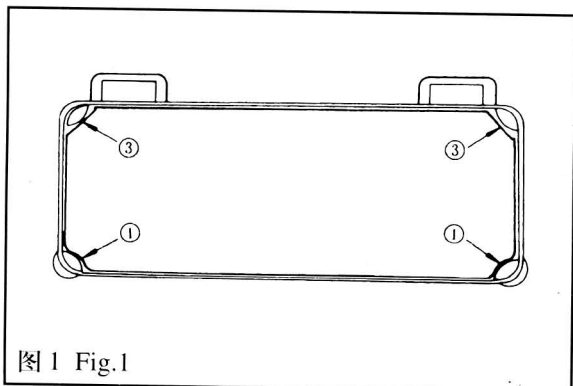
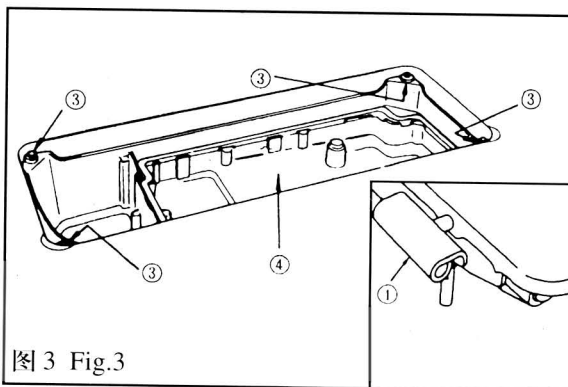
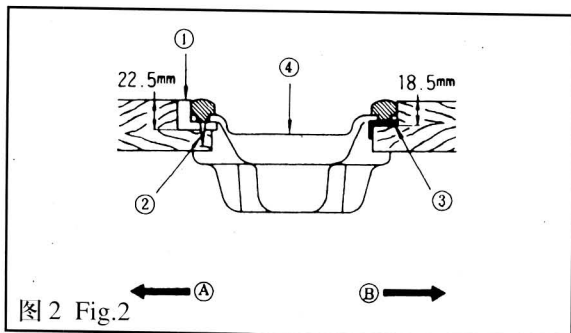
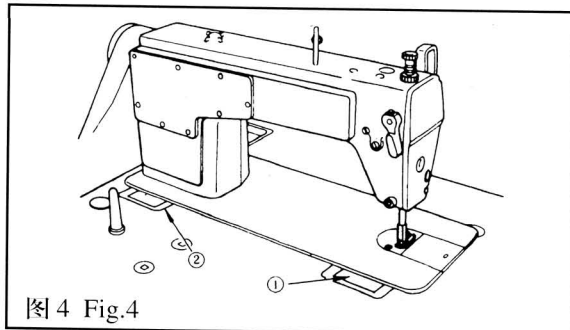

图 1 Fig.1
图 3 Fig.3
图 2 Fig.2
图 4 Fig.4
1. 机器的安装(图 1、图 2、图 3、图 4)
1. INSTALLATION (Fig.1, Fig.2, Fig.3, Fig.4)
- 2) 如图所示, 将两只油盘支座①用油盘座钉②固定在 A 一边 (朝操作者一边), 将两只油盘座垫③用油盘座钉②固定在 B 一边 (用机头连接钩接合一边), 最后把油盘④放在其上。(图 1、图 2)
- 3) 将机头连接钩①放入底板孔内, 与台板的机头连接钩座②相嵌合, 再将机头放到四只角的机头座垫③上。(图 3、图 4)
- 2) Fix two rubber seats ① on side A (operator's side) using nails ② as illustrated above. Fix two cushion seats ③ on side B (hinged side) using nails ②. Then place oil pan ④ on the fixed seats. (Fig.1, Fig.2)
- 3) Fit hinge ① into the opening in the machine bed, and fit the machine head to table rubber hinge ② before placing the machine head on cushions ③ on the four corners. (Fig.3, Fig.4)